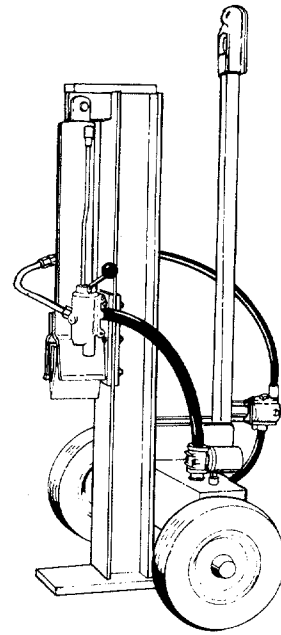

FIGURE 17.
6. The tongue can be removed and reattached in an upright position as shown in figure 17 to take less space when storing.